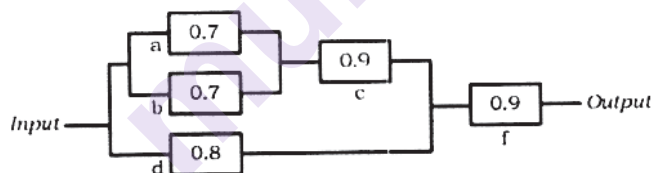

Fig. 1
- c) Determine the system reliability of the system shown in fig.1. [7]